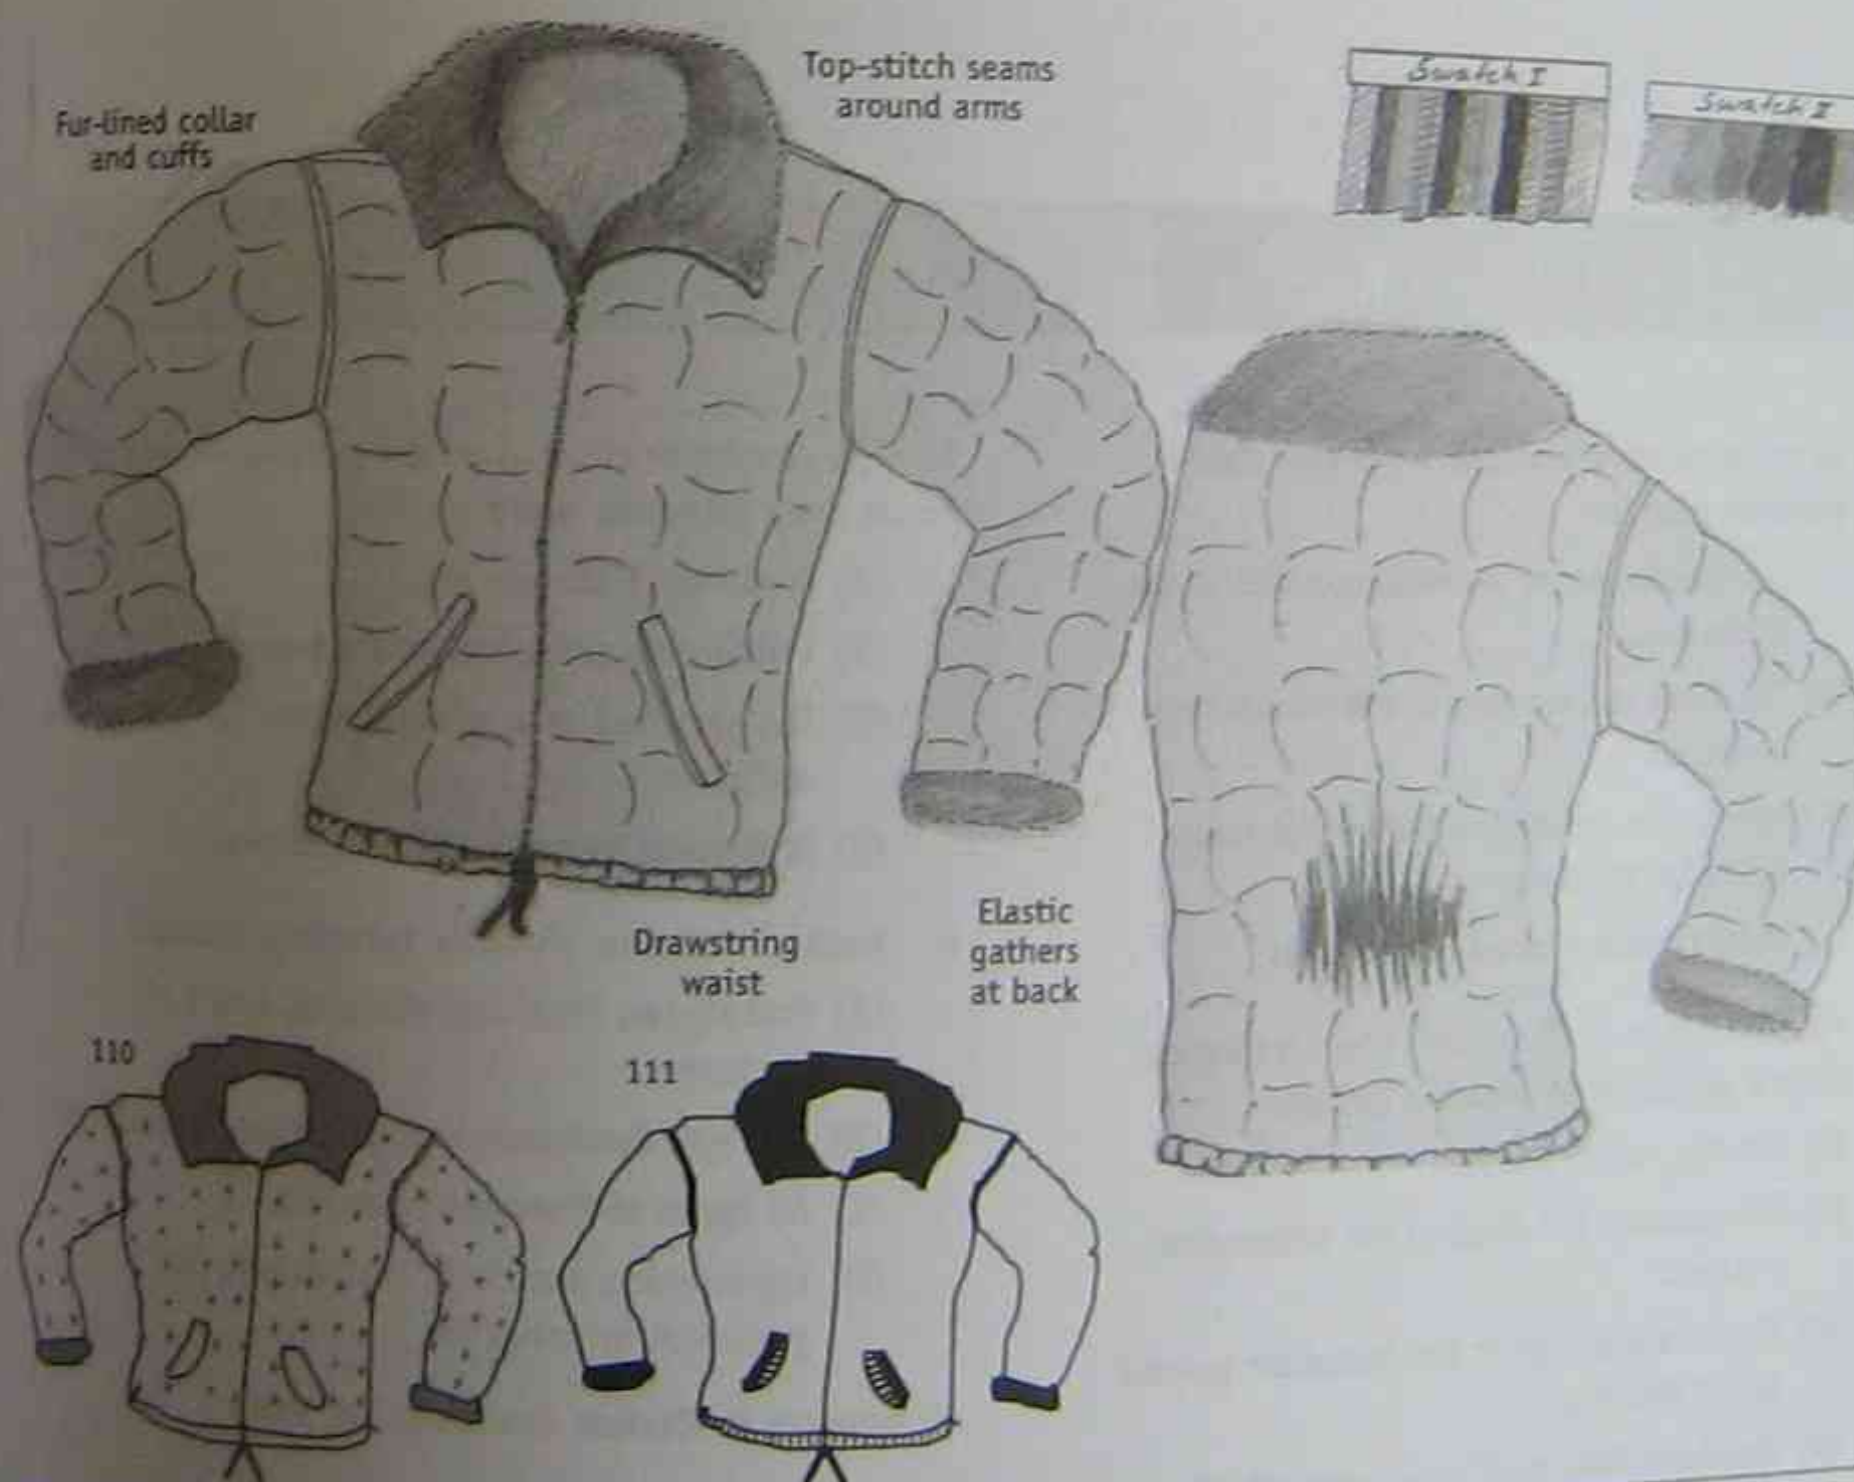

Figure 11.9 Samples of hand-drawn and computer-aided fashion sketches and swatches
■ **Fashion sketches.** If you are sketching a textile item you will need to include a fashion sketch. This should show the front and back view of the item with all fashion features labelled. You may choose to include some possible fabric samples (swatches) to make the design from. Once again, this sketch should be at least A4 size, detailed and of top quality. This is illustrated in Figure 11.9 on the next page.